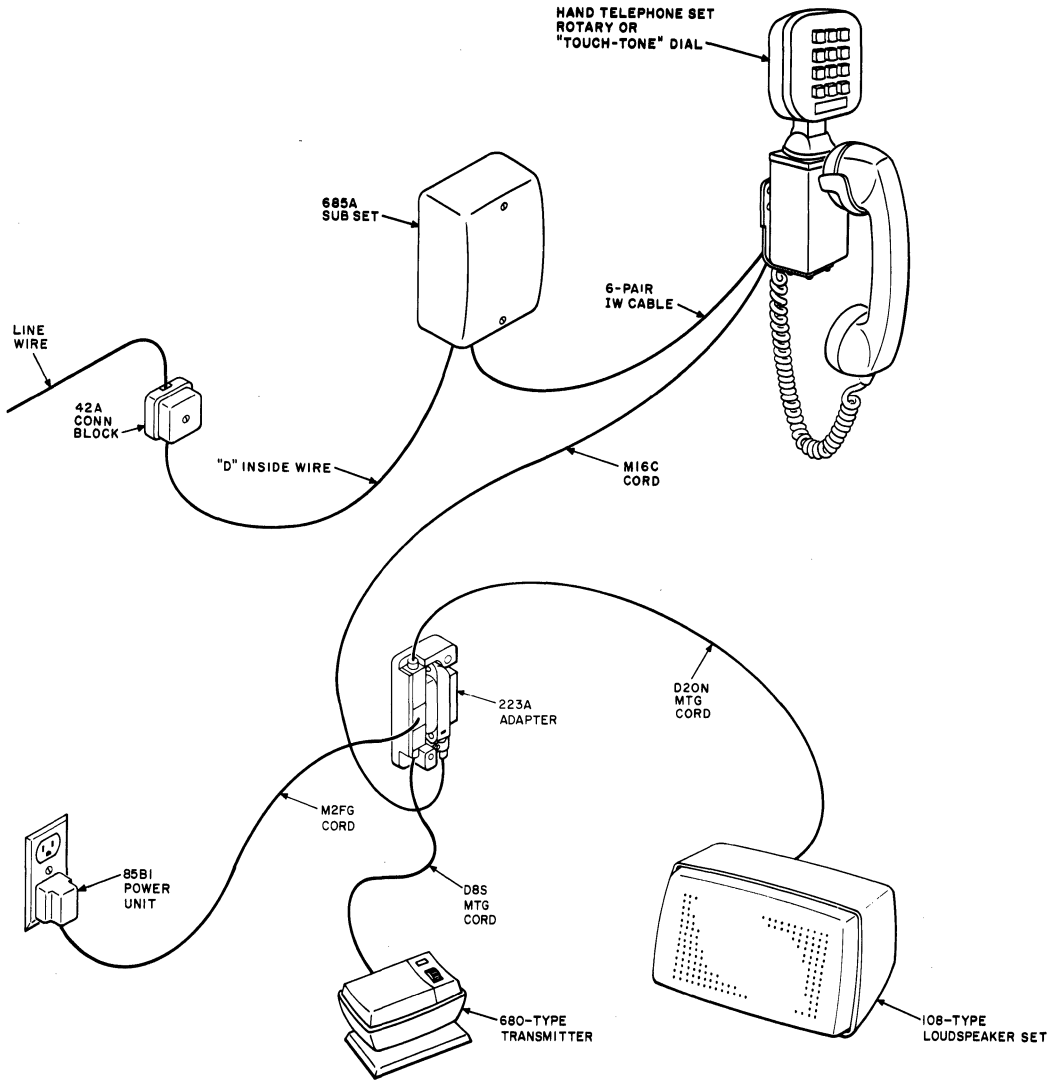

Fig. 1—Speakerphone Arrangement, 211PR and 2211P Hand Telephone Sets With 685A Subscriber Set
**1.03** To provide 4A speakerphone feature at these telephone sets, refer to Fig. 1 for layout arrangement for the components required for the system and Fig. 2, 3, 4, 5, or 6 for individual lead connections.
**2.04** Power can be supplied by connecting 85B1 power unit as shown in Fig. 1 or 6.